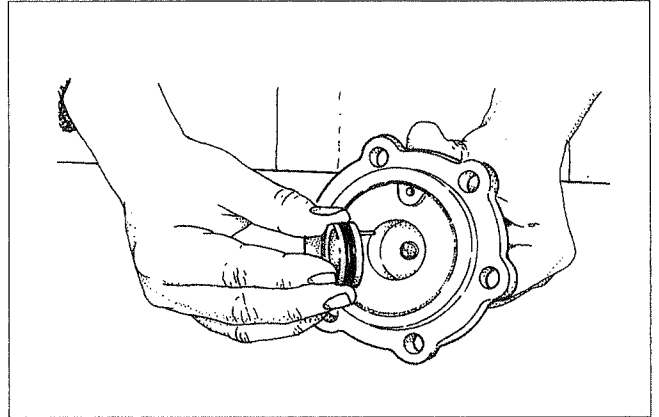

Figure 40
1. Position indexed brg. assy. in the cover and roll pin in its housing (Figure 40).